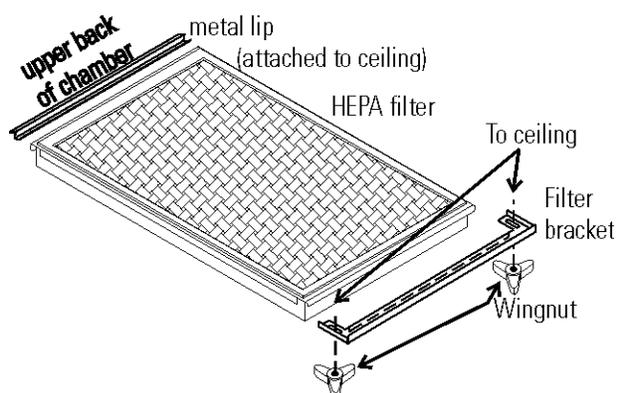

Figure 1-11. HEPA Orientation for Model 3307/3308
3. Loosen black wingnuts in front corners of the chamber ceiling (Figure 1-11/1-12).